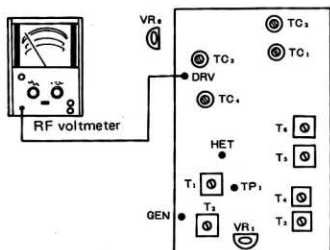
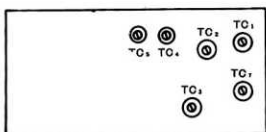

Fig. 23
Fig. 24
Have the RF voltmeter connected as shown in Fig. 23. Adjust T1, T2, T3, T4, T5, T6, TC1, TC2, TC3 and TC4 are here tentative; these are to be adjusted finally when adjusting the FINAL unit.
- 3) Adjust TC1, TC2, TC3, TC4, TC5 and TC7, shown in Fig. 24, and also TC3 and TC4, shown in Fig. 23, to obtain the largest possible output. (Repeat the foregoing sequence several times, each time adjusting the FINAL control to maximize the output.)